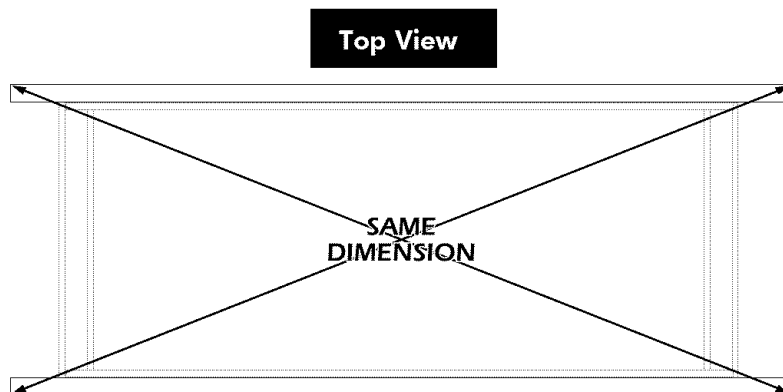

Figure 5
7. Place the frame in its final location. Square the base frame assembly by measuring diagonally from the corner of one beam to the opposite corner of the other beam. (See Figure 5) Nudge the frame until both diagonals are equal (within 1/16 inch).